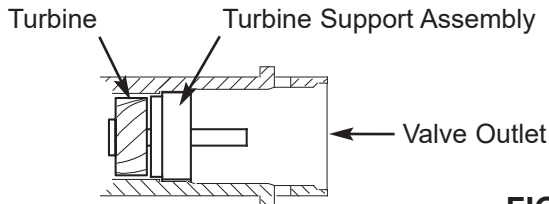

FIG. 10
3. Make sure the turbine assembly spins freely in the "out" port of the valve (See Figure 10).